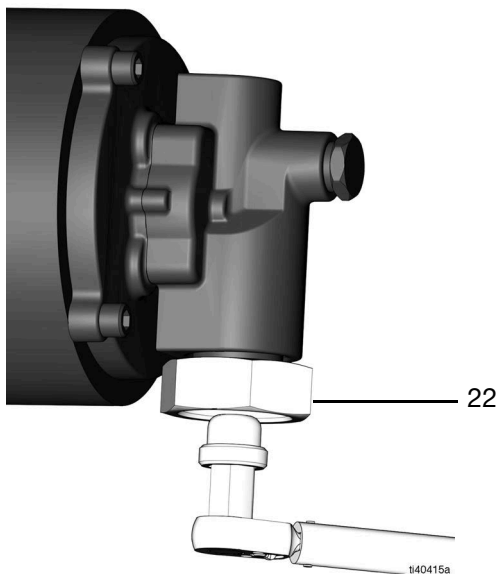

FIG. 3
5. Remove the suction filter (22) using a 3/4 in. (19 mm) hex wrench (FIG. 3).
1. Tighten the suction filter (22) into the pump inlet, using a 3/4 in. (19 mm) hex wrench (Torque 30 ft-lb, 40.7 N•m) (FIG. 3).